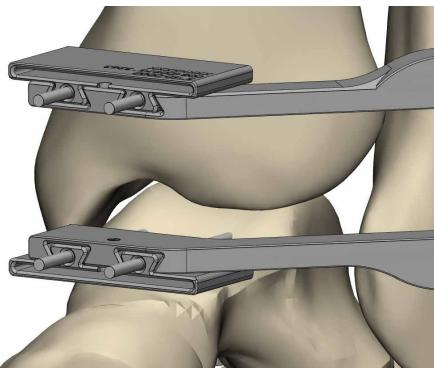

Fig. 4.2
**4.2.** Under power, fixate each cut guide with two 2.4mm k-wires placed bicortically. (fig 4.2). X-rays may be used to confirm coronal and sagittal alignment of the cut guides.